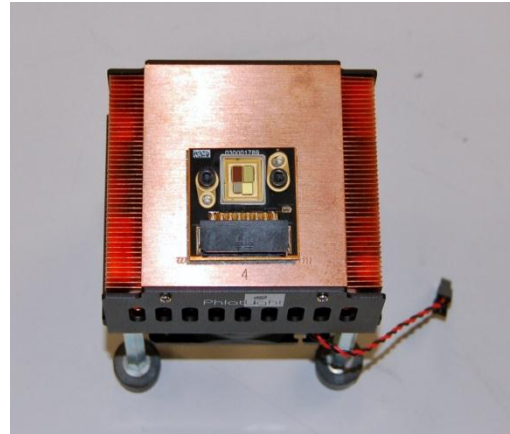

Figure 9: Device mounted on heat sink
4. Insert screws in the holes of the coreboard and tighten. To ensure equal pressure is exerted by all screws, alternate tightening each screw until the board is securely fastened. The device is now mounted and ready for electrical connections (Figure 9).